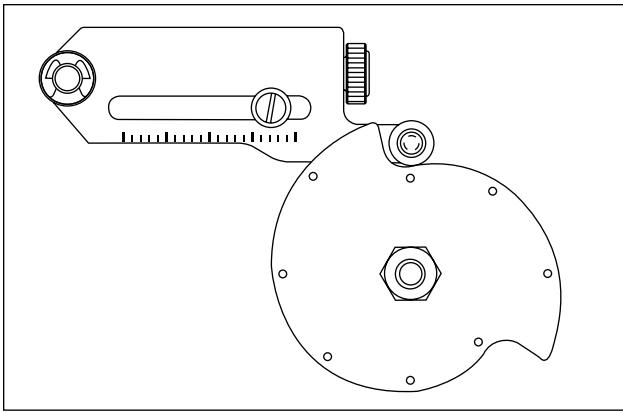

Figure 4: Alignment for Accord Cams
4. A) For NAMUR shaft end connections, make sure the round mark on the left hand side of the characteristic curve is lined up with the span arm roller bearing. See Figure 4.